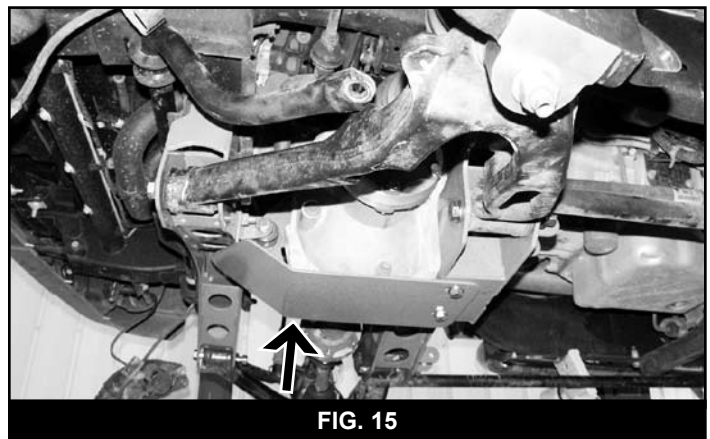

FIG. 15
44. Install the new differential skid plate (01184) to the welded nuts on the front and rear crossmembers with 1/2" x 1-1/4" bolts and 1/2" SAE washers from bolt pack #540 (Fig 15). Use loctite on the bolt threads. Leave hardware loose.